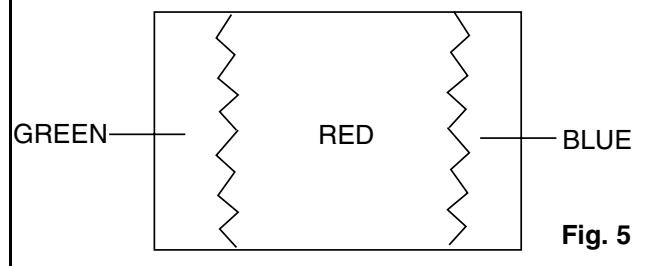

Fig. 5
6. Loosen the Ring Lock and adjust the Purity Magnets so that a red field is obtained at the center of the screen. Tighten Ring Lock. (See Fig. 5,6.)